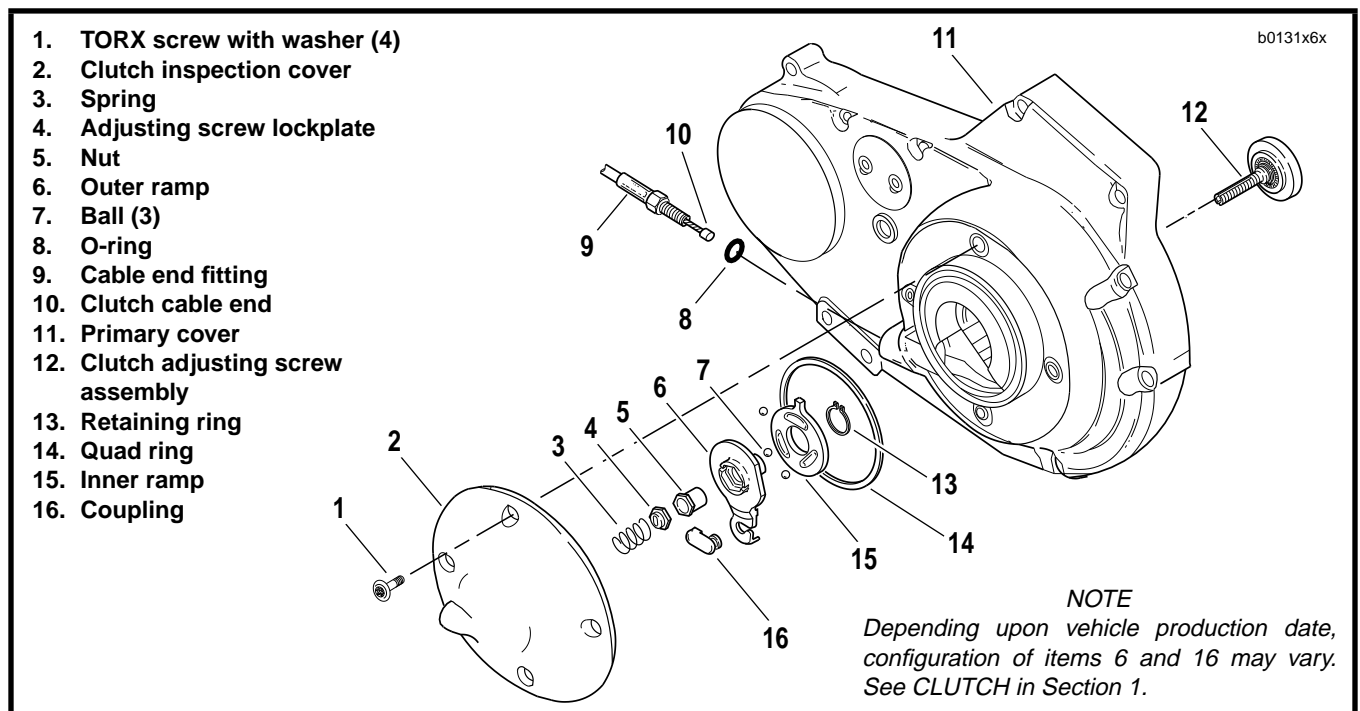

Figure 6-8. Clutch Release Mechanism
2. See Figure 6-8. Remove four TORX screws with washers (1) and clutch inspection cover (2).
3. Slide spring (3) with attached screw lockplate (4) from flats of adjusting screw (12).
4. Turn adjusting screw (12) clockwise to release ramp and coupling mechanism. As the adjusting screw is turned, ramp assembly moves forward. Unscrew nut (5) from end of adjusting screw.
5. Remove hook of ramp from cable end coupling (16). Remove cable end (10) from slot in coupling.
6. Remove retaining ring (13) from ramp assembly to separate inner and outer halves. Remove three balls (7) from ramp sockets.
2. See Figure 6-8. Inspect three balls (7) of release mechanism and ball socket surfaces of inner and outer ramps for wear, pitting, surface breakdown and other damage. Replace parts as necessary.
3. Check hub fit of inner (15) and outer (6) ramps. Replace ramps if excessively worn.
1. See Figure 6-8. Apply multi-purpose grease to balls (7) and ramps (6, 15). Insert balls in sockets of outer ramp. Install inner ramp on hub of outer ramp with tang 180° from hook of outer ramp. Install retaining ring in groove of outer ramp hub.
2. Fit coupling (16) over cable end. Place hook of ramp around coupling button and rotate assembly counterclockwise until tang on inner ramp fits in slot of primary cover (11).
3. Thread nut (5) on adjusting screw (12) until slot of screw is accessible with a screwdriver. Fit nut hex into recess of outer ramp and turn adjusting screw counterclockwise until resistance is felt.